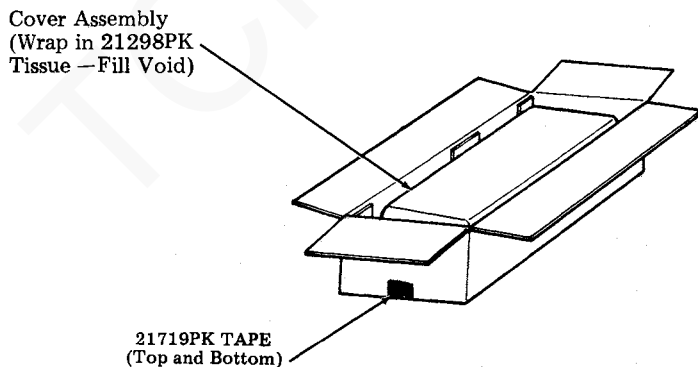
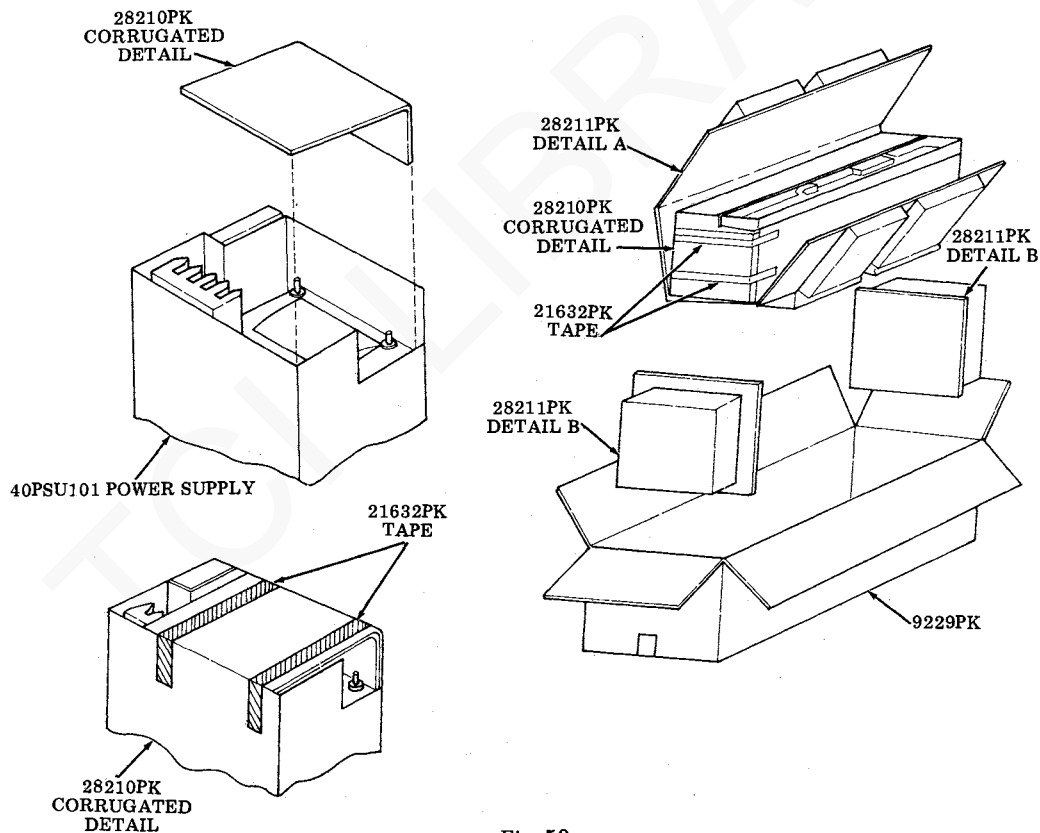

Fig. 43
Fig. 53
- Step 1. Form a 28210PK corrugated detail. Position detail in end of unit as illustrated in Fig. 43. The edge on short end of detail must butt against transformer, and the edge on long end of detail must butt against the inside of power supply cover. Secure detail in place with two strips of 21632PK tape as shown in Fig. 53.
- Step 3. Form a 28211PK Detail A and place in carton as illustrated in Fig. 53. Center detail in carton.
- Step 4. Position a 28211PK Detail B in either end of carton as illustrated in Fig. 53.
- Step 5. Place unit in a 23456PK plastic bag. Position unit in carton as illustrated in Fig. 53.